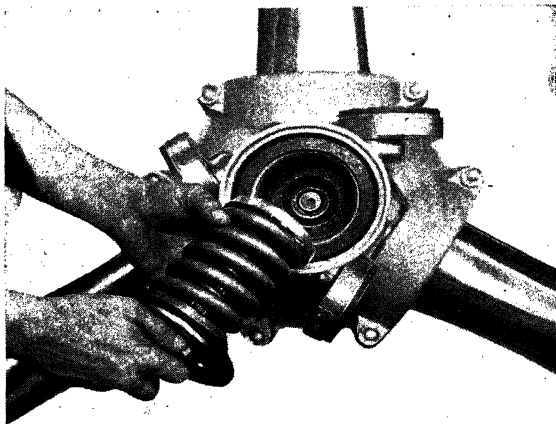

Fig. 9.—Inserting a coil spring in a propeller hub.
17. Insert the complete spring assembly in the piston and tighten the piston gasket nut (see Fig. 9). Use a bar approximately 2 ft. long.